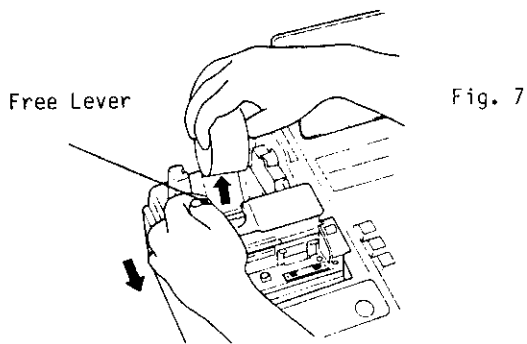

Fig. 7
2. Press the Free Lever down and pull the old paper core upward to remove the remaining paper end. (Fig.7)